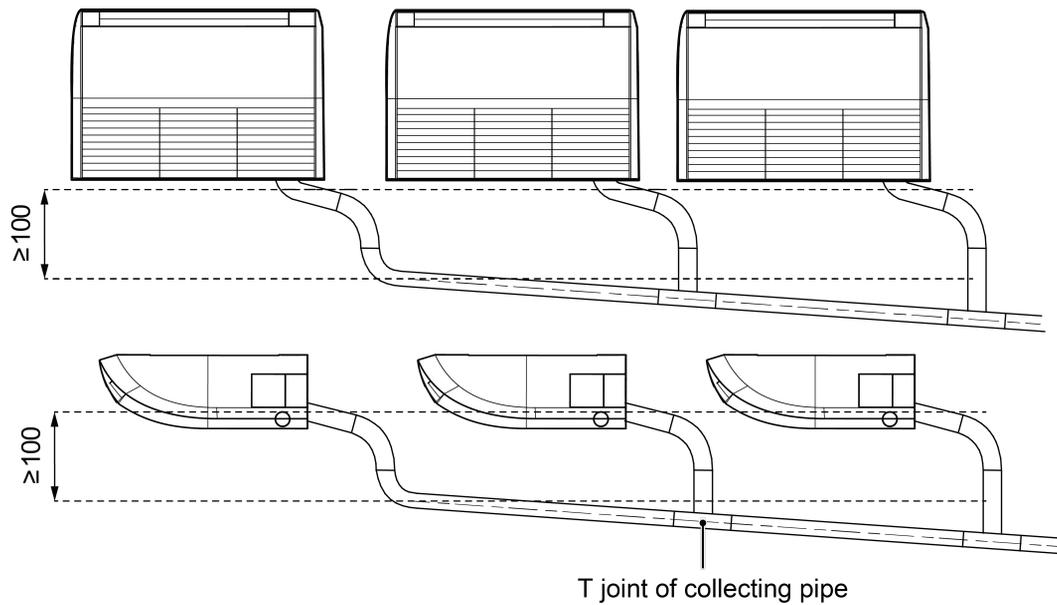

Fig.4.3.2.1
- (1) Drainage pipe should have the same diameter or larger diameter than the connection pipes (PVC pipe, outside diameter 17mm, thickness \geq 1.75mm).
- (2) Keep drainage pipe short and sloping downwards at a gradient of at least 1% for preventing forming air bubbles.
- (3) Insert the drainage hose into drain socket, tighten the metal clamp securely.
- (4) Wrap the sealing pad over drain hose and metal clamp for heat insulation.
- (5) Make sure to perform insulation work for all drainage piping in order to prevent any possible water drop due to dew condensation.
- (6) Apply the suitable diameter for converging drainage pipe according to the operating capacity of the unit, as shown in Fig.4.3.2.1.